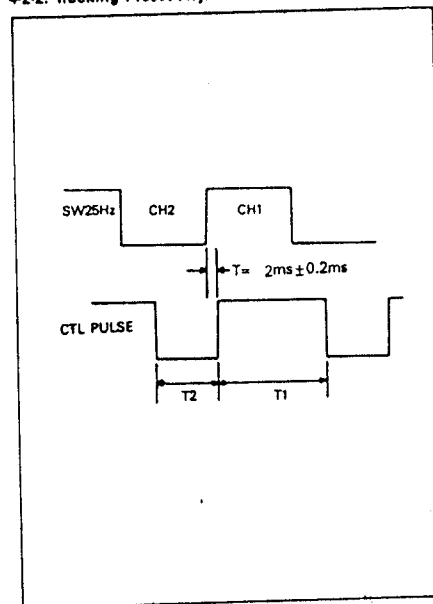

Fig. 5 Tracking Preset
- 4) Set the Tracking Control (VR703) on the front panel to the detented position and adjust the Tracking Preset Control (VR203) to align the pulse width $T = 2.0ms \pm 0.2ms$. (Fig. 5)